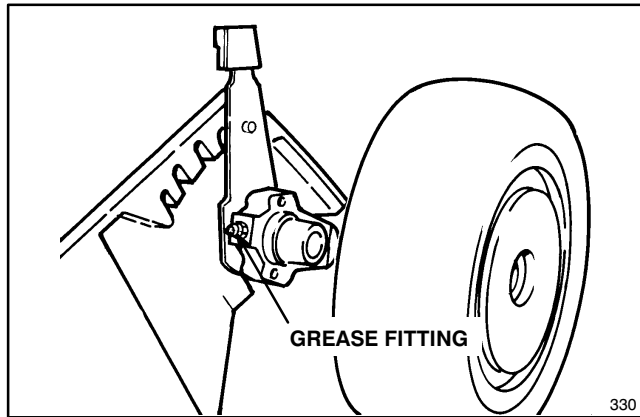

Figure 17
2. **GREASE FRONT AXLE PIVOTS** (Fig. 17) (self-propelled model only)—Adjust height—of—cut to 3-inch setting and loosen wheel bolt to get additional clearance around grease fitting. Wipe grease fittings with clean rag. Install grease gun onto fitting and gently apply 2 or 3 pumps of #2 Multi-Purpose Lithium Base Grease.